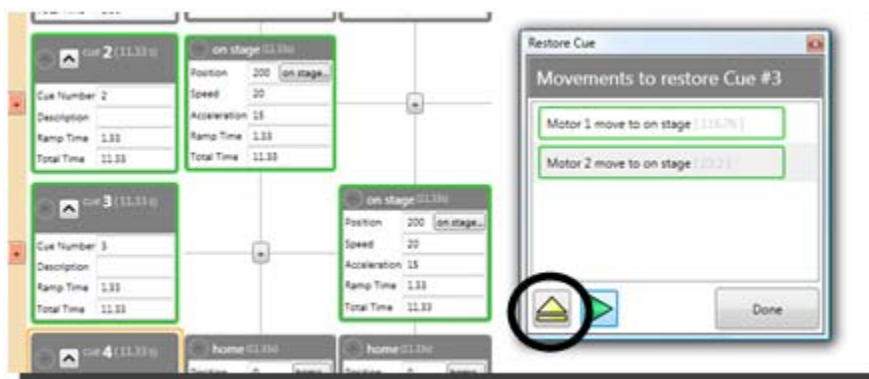

Figure 344
- To start moving motors back into their correct positions, select a single movement from the list and then press the **Load Movement** button in the **Restore Cue** window (Figure 344). Load and run the movements one by one.